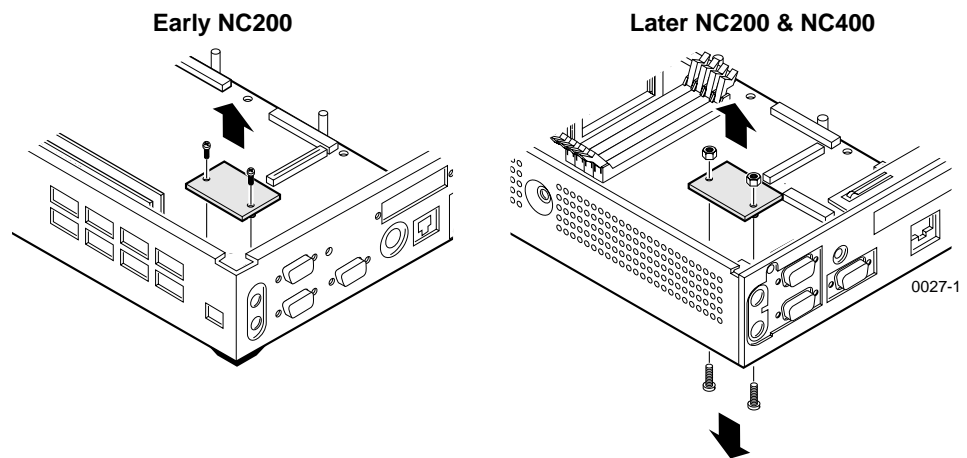

Figure 4. Removing the Terminator Board
7. Remove the fasteners (screws in the early NC200, screws and nuts in the later NC200 and the NC400) and unplug the Terminator board as shown in Figure 4. The figure shows removal from the NC200; removal from the NC400 is essentially the same. Save the fasteners for reuse when installing the Frame Buffer Memory board.